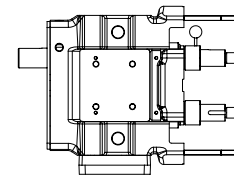

FIGURE 8
1. Check bearings for radial play using a dial indicator as shown. If indicator reading is equal or greater than the rotor-to-body clearance in **Table 7** under **Standard Clearances**, replace bearings. Refer to **Figure 8**.